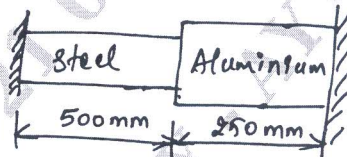

Fig.Q2(b)
- b. A composite bar made up of Aluminium and steel is held between two supports as shown in Fig.Q2(b). The bars are stress free at temperature 42°C . What will be the stresses in the two bars with the temperature drops to 24°C if i) The supports are unyielding ii) the supports come nearer to each other by 0.1mm . The cross-sectional area of steel bar is 160mm^2 and that of aluminium bar is 240mm^2 . $E_A = 0.7 \times 10^5\text{N/mm}^2$, $E_S = 2 \times 10^5\text{N/mm}^2$, $\alpha_A = 24 \times 10^{-6}/^\circ\text{C}$ and $\alpha_S = 12 \times 10^{-6}/^\circ\text{C}$.